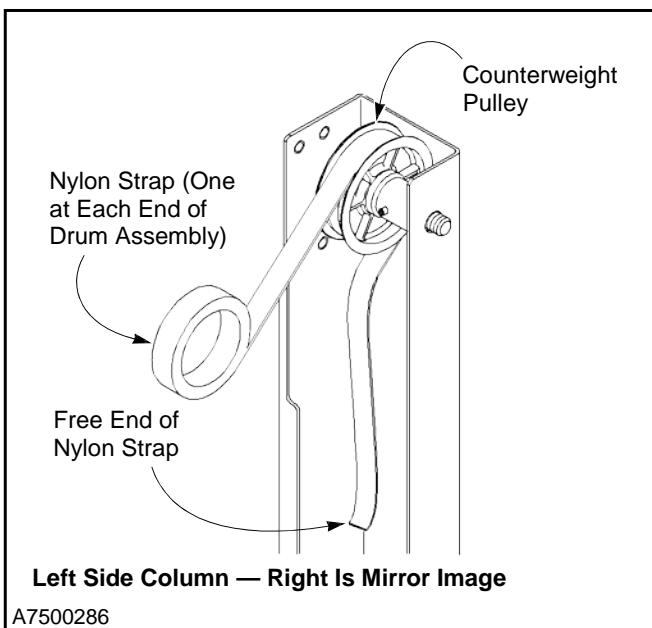

Figure 32
8. Route the free end of each strap over the top of its associated counterweight pulley located near the top of the side column. Then allow the strap to hang free off the back of the pulley. (See Figure 32.)